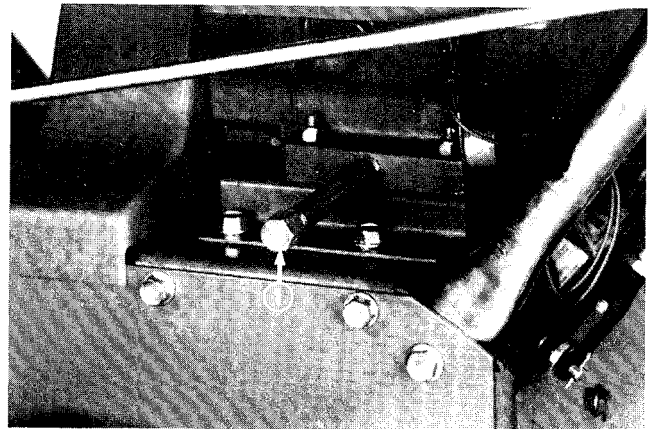

Figure 29
3. Clean area around oil drain cap. Next, slide oil drain pan below drain extension; then remove oil drain cap (Fig. 29).